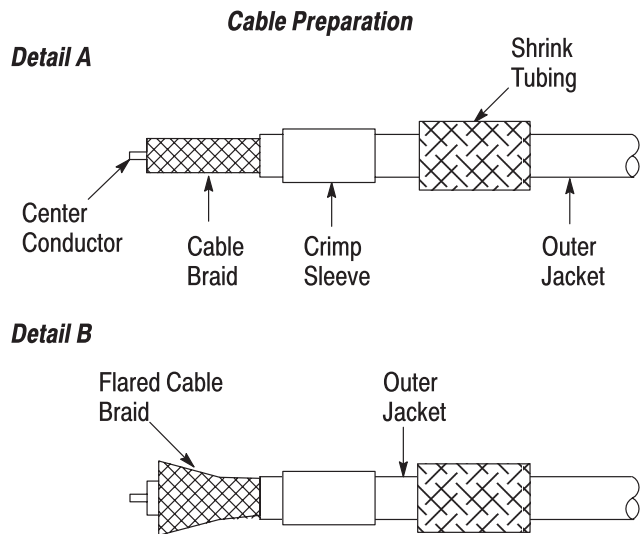

Figure 3
2. Strip the cable to the dimensions given on the appropriate customer drawing for the connector. See Figure 3, Detail A.
3. When using MA318 low-loss cable, use the braid spreading tool to flare the two cable braid layers away from the cable dielectric. See Figure 3, Detail B.